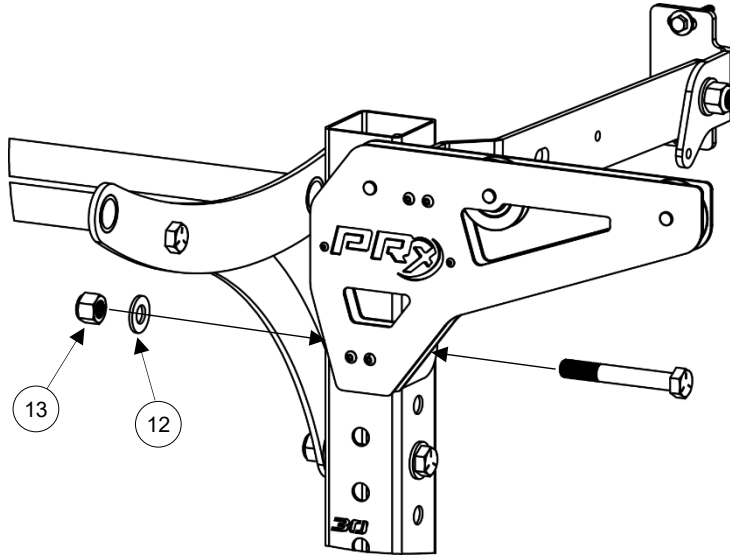

Figure 7: Installation of 5/8" hardware for racks with kipping bar
For racks with a kipping bar, secure the Lower L Bracket to the rack by installing the 5/8" bolt removed in step 1, with the provided 5/8" Flat Washer (12), and 5/8" Lock Nut (13) (**Figure 7**).